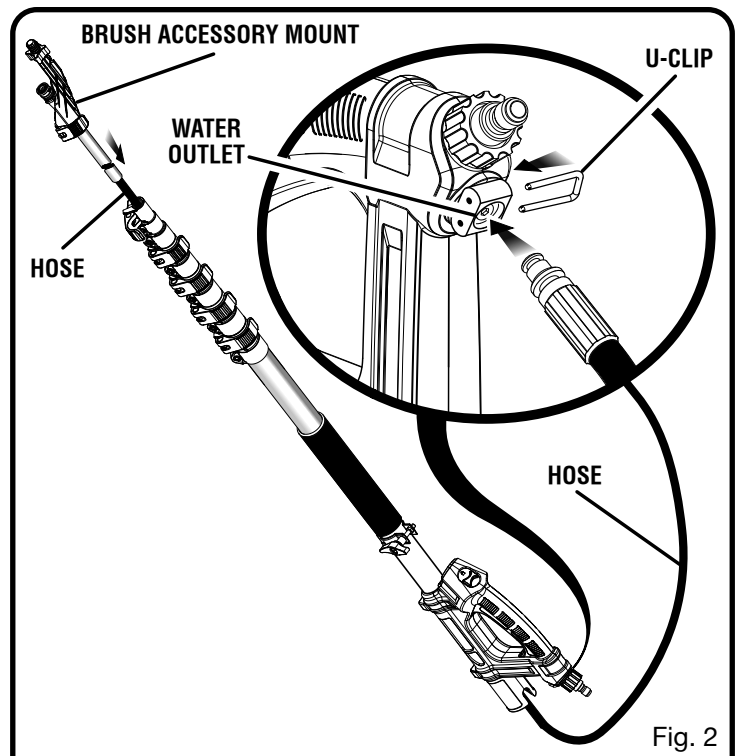

Fig. 2
- Feed the hose on the brush accessory mount section down through the middle of the assembled pole and trigger handle sections so that it exits from the base of the trigger handle as shown in fig. 2.